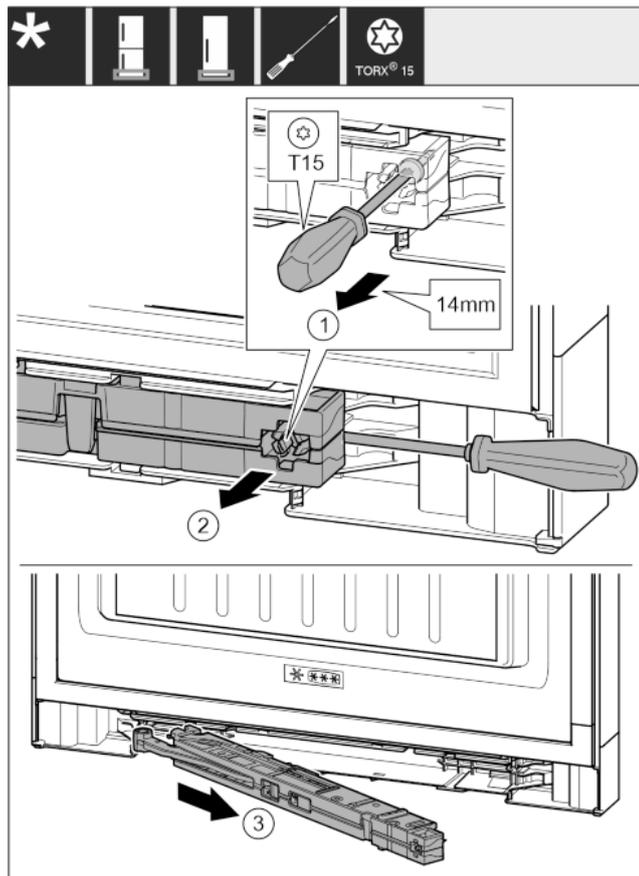

Fig. 14
- ▶ Undo the soft stop mechanism screw with a T15 screwdriver approx. 14 mm. Fig. 14 (1)
- ▶ Insert the screwdriver on the handle side behind the soft stop mechanism. Turn the unit forwards. Fig. 14 (2)
- ▶ Pull out the unit. Fig. 14 (3)